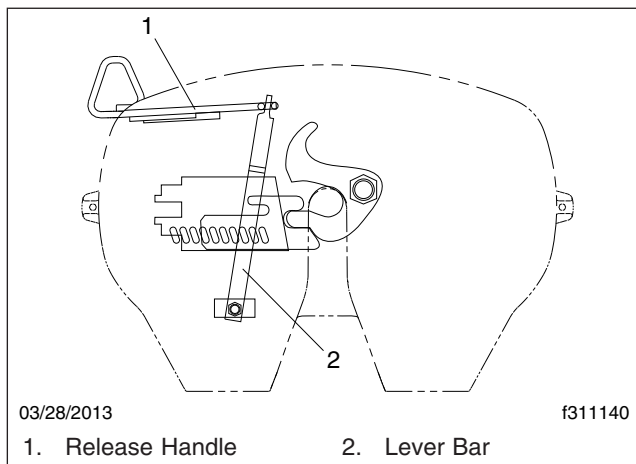

Fig. 3, Lever Bar and Release Handle Alignment
- The lever bar and release handle must be in proper alignment. See Fig. 3. Compare the lever bar and release handle alignment to a new, or a properly operating lever bar and release handle. Replace any bent or misaligned lever bar or release handle.